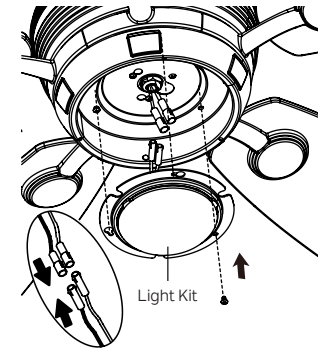

Fig. 23
Step 2. Connect the 2 single pin connectors from the light kit to the 2 single pin connectors from the motor assembly. Connect the black wire to black wire, and the white wire to white wire. Place the two slot holes on the light kit over the 2 screws previously loosened from the light plate. Rotate the light kit until it locks in place at the narrow end of the key holes. Securely tighten the 2 screws previously loosened and the one previously removed. (Fig. 23)